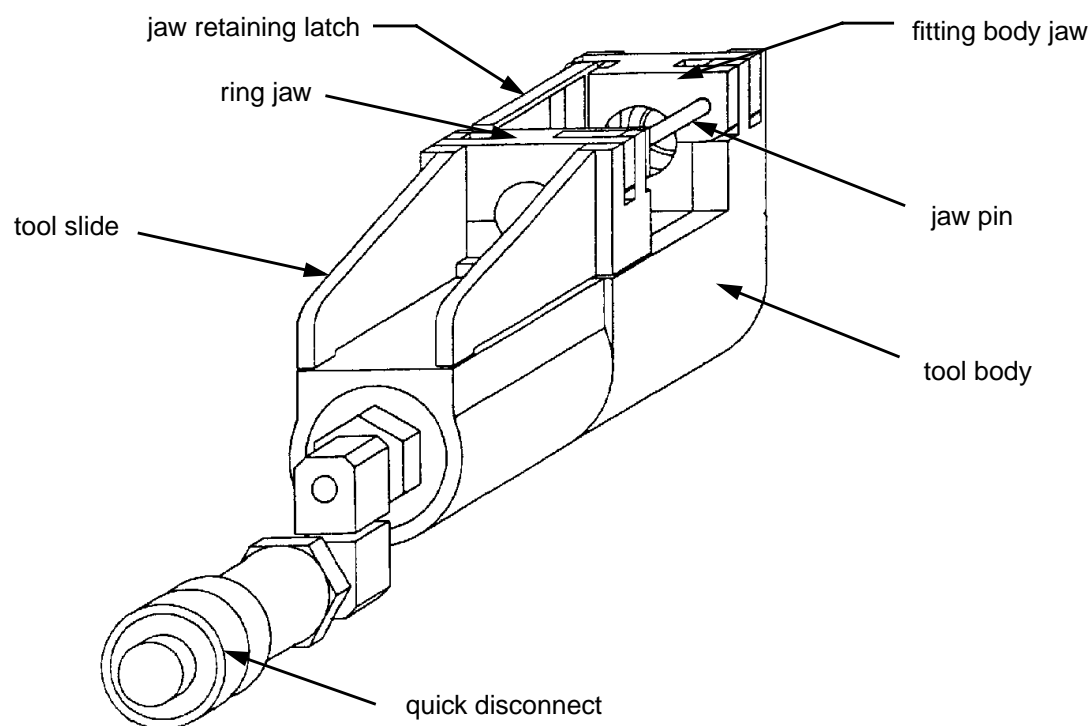

Figure 7 - Quickfit Hydraulic Tool
5.7.1 If using the Quickfit hydraulic tool (see Figure 7), swage the fitting as follows:
- 5.8.1 If there is insufficient clearance to swage a union with the tool in the normal mode, set the tool into the "pull mode" by reversing the fitting body and ring jaws (see Figure 7) as follows: